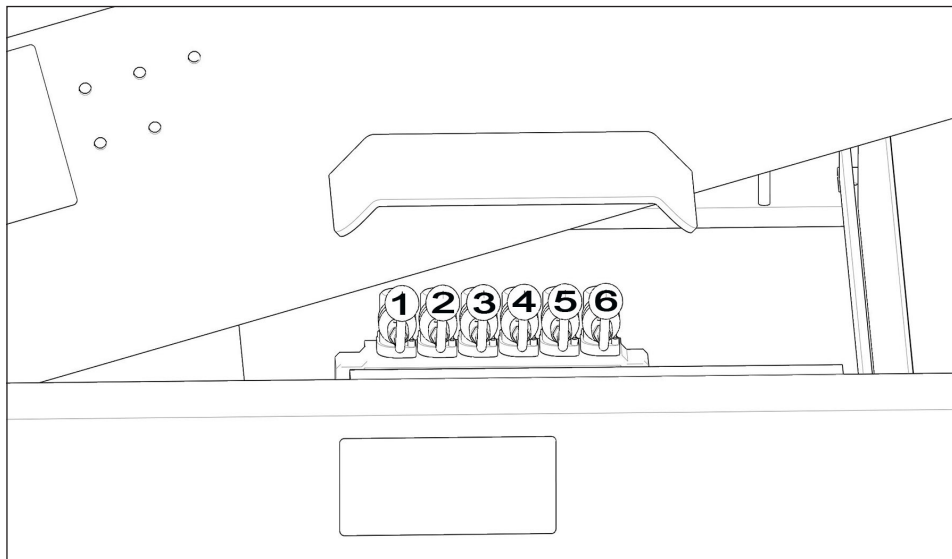

Figure 4.93 - Feeder Extension Hydraulic Lever
6. If the machine is fitted with the option of feeder extension plates these should now be placed in their working position, the control lever can be found on the left hand side of the machine under the screenbox, Ref: Figure 4.93 lever (6)